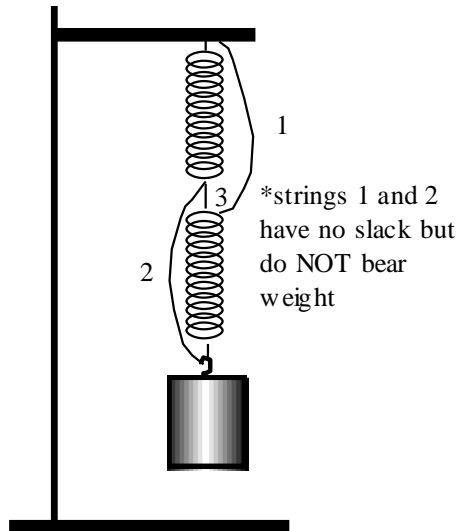
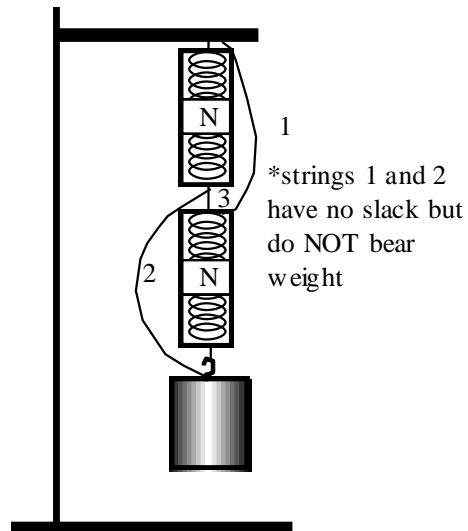

Figure 1
Figure 2
(Figure 1 has two springs and Figure 2 has two spring scales)
- What will happen when you cut string #3 in Figure 1? Discuss with your lab partner and write your prediction on the Student Data Sheet.
- Suppose a 1 kg weight is hanging in Figure 2. What will the spring scales read before and after you cut string #3? Discuss with your lab partner and write your prediction on the Student Data Sheet.